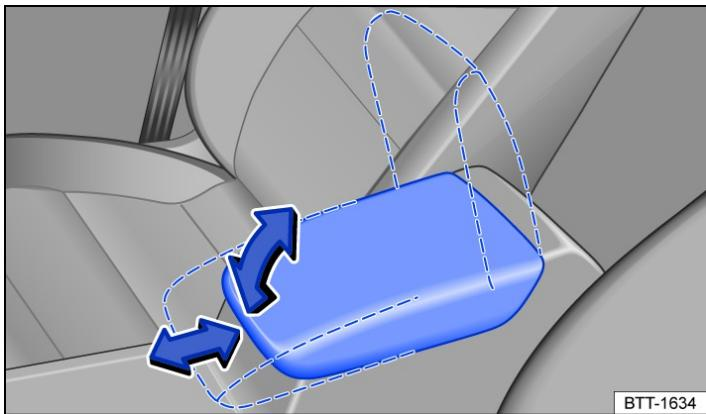

Fig. 1 Front centre armrest.
- To *move it backwards and forwards*: push the centre armrest in the direction of the arrow all the way forwards → *Fig. 1* or all the way backwards.